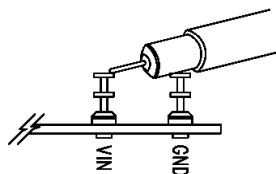

Figure 2. Measuring Input or Output Ripple
**NOTE:** When measuring the input or output voltage ripple, care must be taken to avoid a long ground lead on the oscilloscope probe. Measure the output (or input) voltage ripple by touching the probe tip and probe ground directly across the +VOUT and -VOUT (or  $V_{PORT\_P}$  and  $V_{PORT\_N}$ ) terminals. See Figure 2 for proper scope probe technique.